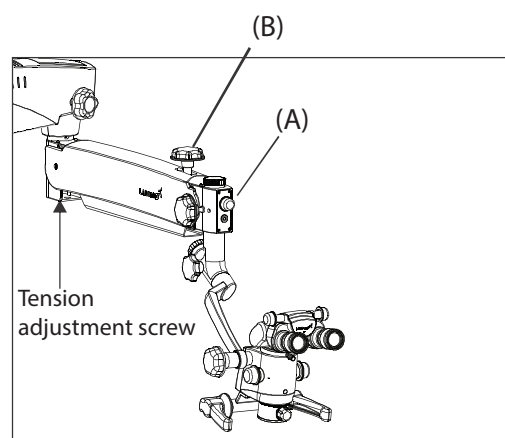

Fig. 55
3. Lock the up & Down movement of suspension arm using locking knob (B) in fig.55 after focusing of the area of interest.
8. The illumination is controlled through the control knob (A), fig.55. Rotate it clockwise or anticlockwise to achieve desired illumination level.